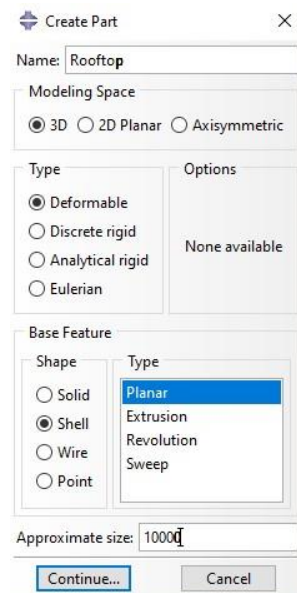

Figure 1-1 – The create part dialog box.
2. In the **Create Part** dialog box, see Figure 1-1: